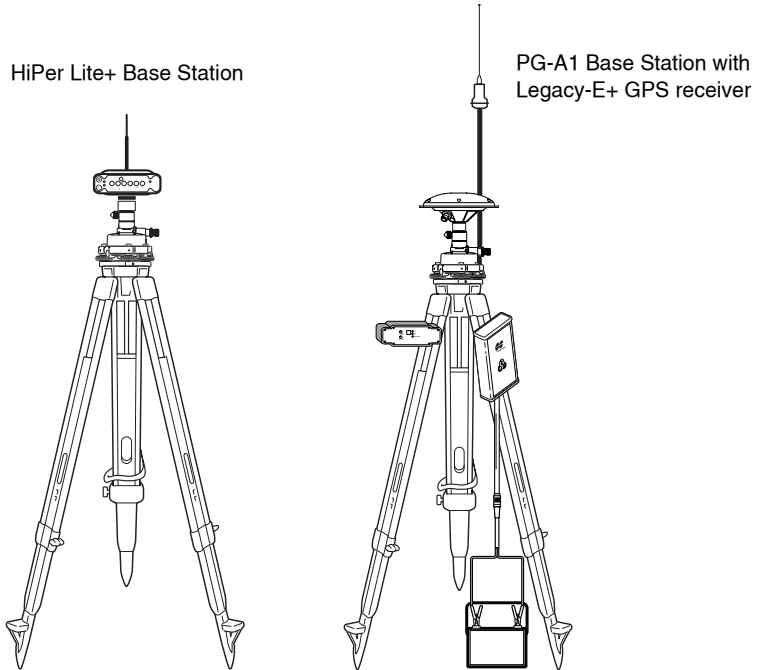

Figure 5-2. Base Station Setup
Figure 5-2 on page 5-5 shows a completed Base Station setup.
Step 2: attach additional components to the tripod (Figure 5-2).